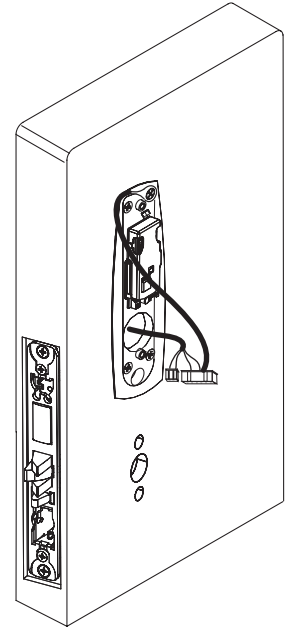

Fig. 10b
- Twist into place, perpendicular with door (Fig. 10b).